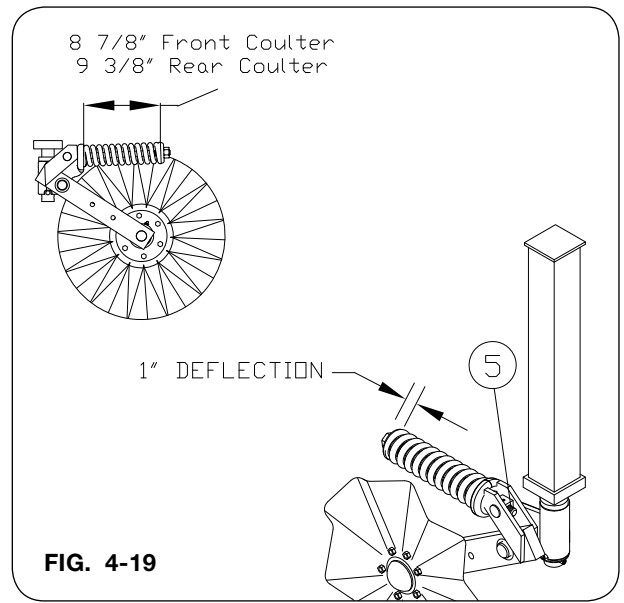

FIG. 4-19
4. Tighten bolt until a deflection of 1" is obtained on spring (Fig. 4-19).